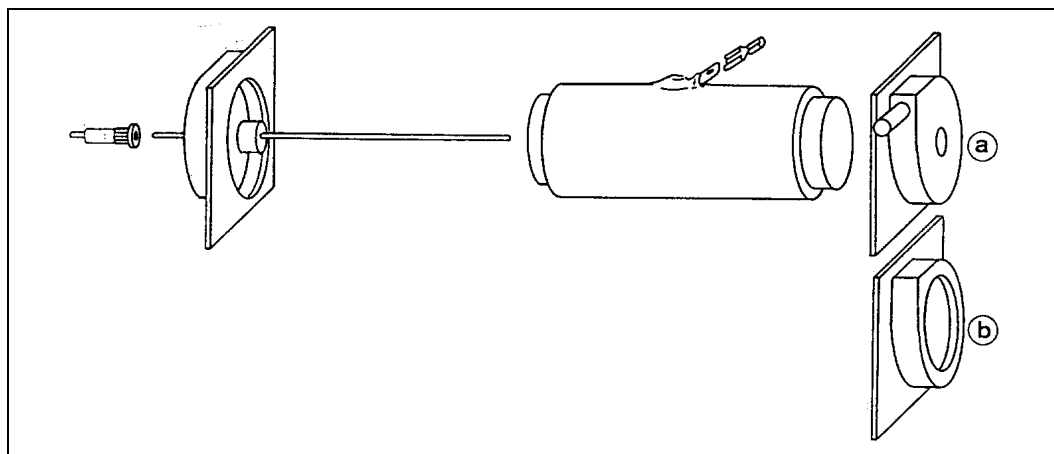

Fig. 4 Assembly of the ionization chamber
Assemble the ionization chamber as shown in Fig. 4. The ionizing effect of X-rays is demonstrated at normal pressure using the chamber lid with large opening ①, at reduced pressure (principle of the Geiger-Müller counter tube) using the lid with vacuum connection ②. The voltage supply and, if necessary, the pump line can be fed out of the experiment zone through the leadthrough ③. Here, it is necessary to use the delivered plugs to modify the experiment cable. The chamber is then inserted into the measuring arm using the snap-on clips (Fig. 2.2).